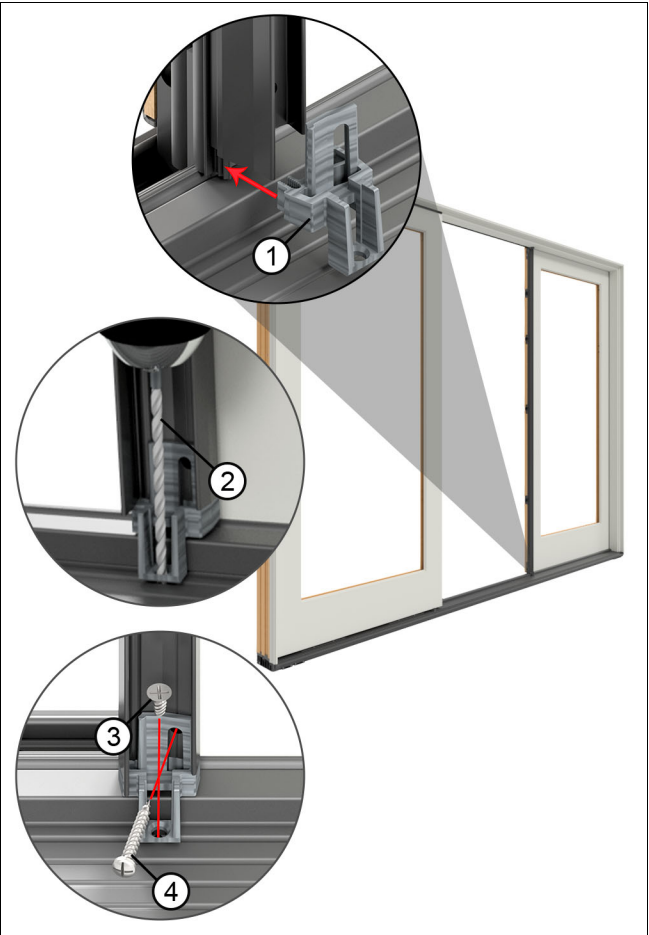

Figure 41
20. Install the sill mull end bracket by aligning it into the mull base, then sliding it down to rest against the sill. Pre-drill with a 1/8 " drill bit through the top wall of the sill and fasten with a #8 x 3/8" flat head screw into the bottom of the mull base and sill. Fasten to the panel with a 3/8 x 1 1/4" pan head screw. See Figure 41.